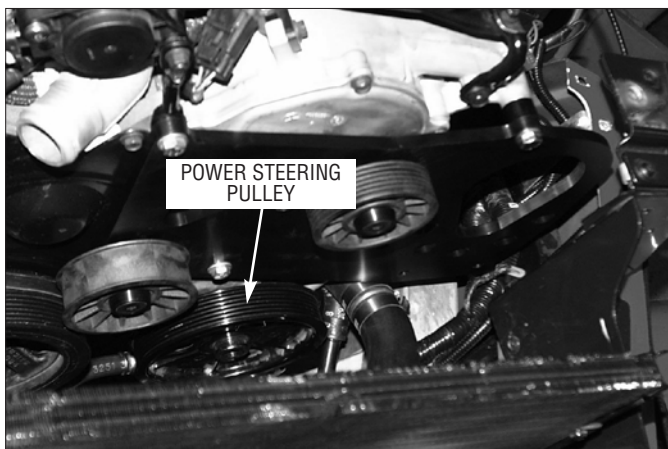

Fig. 7-2
- B. Bolt the supercharger mounting bracket to the front of the engine using the four 8mm bolts and one 10mm bolt (See Appendix 1016034 for the proper bolt placement.) The bracket fits *behind* the power steering pulley. You must put the 3/8-16 x 3-1/4" long bolts (item #8) in the lowermost outer holes in the bracket before installation. (See Figs. 7-2, 7-3.) shows the installed Mounting Bracket.